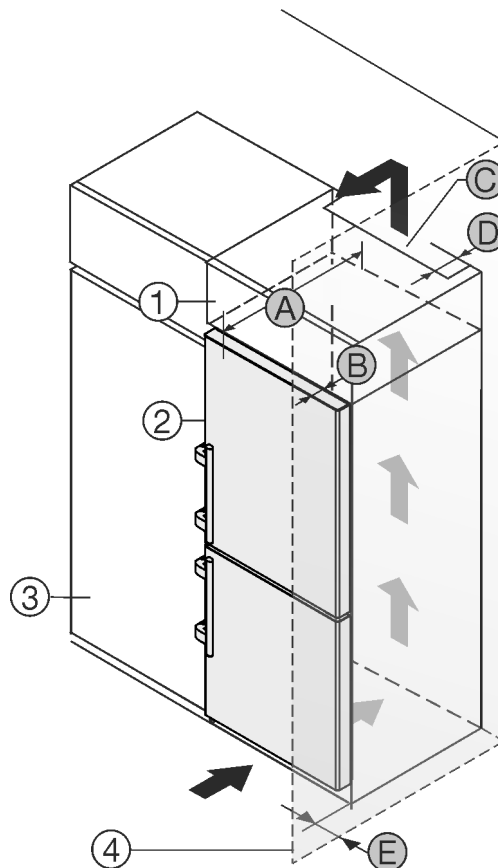

Fig. 47
The appliance can be built into kitchen units. A top cupboard Fig. 47 (2) can be added above the appliance in order to bring the appliance Fig. 47 (1) up to the height of the fitted kitchen units.
If the appliance is positioned directly next to a kitchen cabinet *Fig. 47 (3)*, a distance of at least 5 cm from the appliance is necessary. The appliance must protrude by the depth *Fig. 47 (B)* from the front of the cabinet so that the doors can be opened fully. The appliance may protrude further depending on the depth of the kitchen cabinets and whether wall spacers are used.
- At the back of the top cabinet, there must be an air outlet shaft with depth *Fig. 47 (D)*, spanning the entire width.
- The ventilation shaft *Fig. 47 (C)* must be observed under the ceiling.
If the appliance is installed with the hinges next to a wall *Fig. 47 (4)*, the distance *Fig. 47 (E)* between the appliance and the wall must be observed. This is how far the handle protrudes when the door is open.